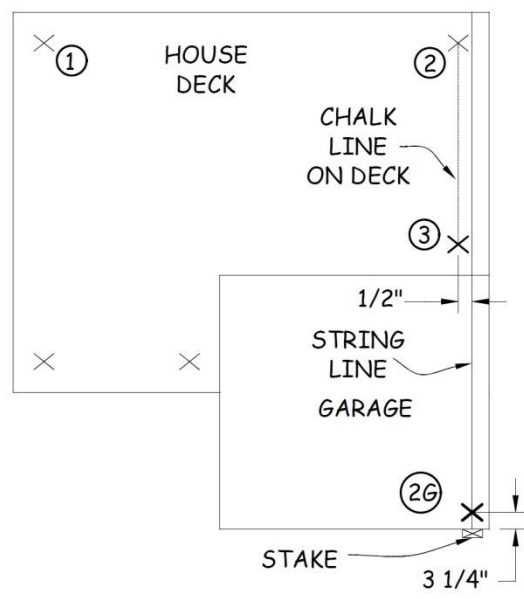

Figure 23-1. Garage Sill Plate Chalk Lines Prior to House Walls.
1. When the house exterior wall plate layout lines have been squared and snapped, refer to Figure 23-1. At points 2 and 3 on the house deck, measure 1/2" toward the edge of the deck and make marks. Tack 8d nails at the marks.